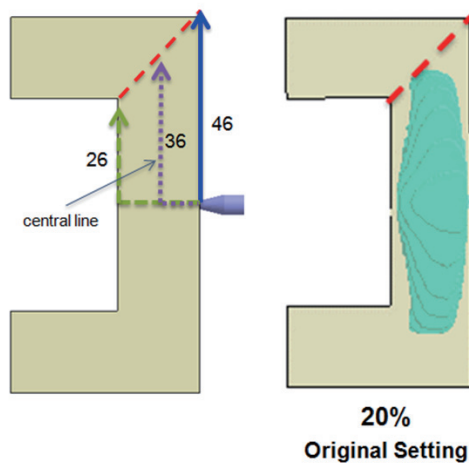

Fig. 3 The diagram of critical penetration distance (the distance from the gate to the diagonal line)
Based on the above investigation, the warpage improvement mechanism is due to the criteria of critical core penetration distance (Fig. 3). As the core crosses the red diagonal line, warpage can be improved. In this case, the critical central penetration distance is 36 mm. It means when central core penetration distance is above 36 mm, warpage will be improved. In the original design setting, when the core ratio is larger than 20% (the central core penetration is over 36 mm), the quality will be improved significantly. Based on this, YunTech made the following design changes: (1) Change the core ratio; (2) Reduce the melt temperature; and (3) Reduce the flow rate of the first shot.